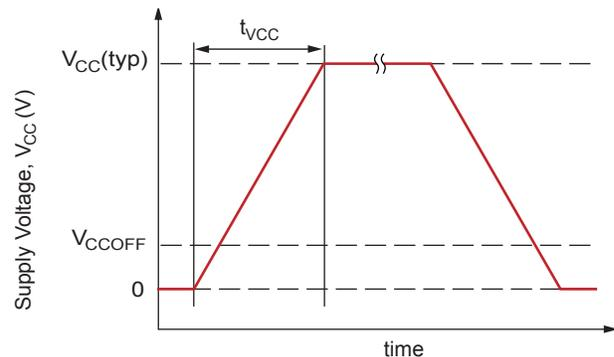

Figure 4. Definition of  $V_{CC}$  Ramp Time,  $t_{VCC}$
**$V_{CC}$  Ramp Time.** The time taken for  $V_{CC}$  to ramp from 0 V to  $V_{CC}(typ)$ , 3.3 V (see figure 4).
**$V_{CC}$  Off Level.** For applications in which the  $V_{CC}$  pin of the A1318 or A1319 is being power-cycled (for example using a multiplexer to toggle the part on and off), the specification of  $V_{CC}$  Off Level,  $V_{CCOFF}$ , determines how high a  $V_{CC}$  off voltage can be tolerated while still ensuring proper operation and startup of the device (see figure 4).